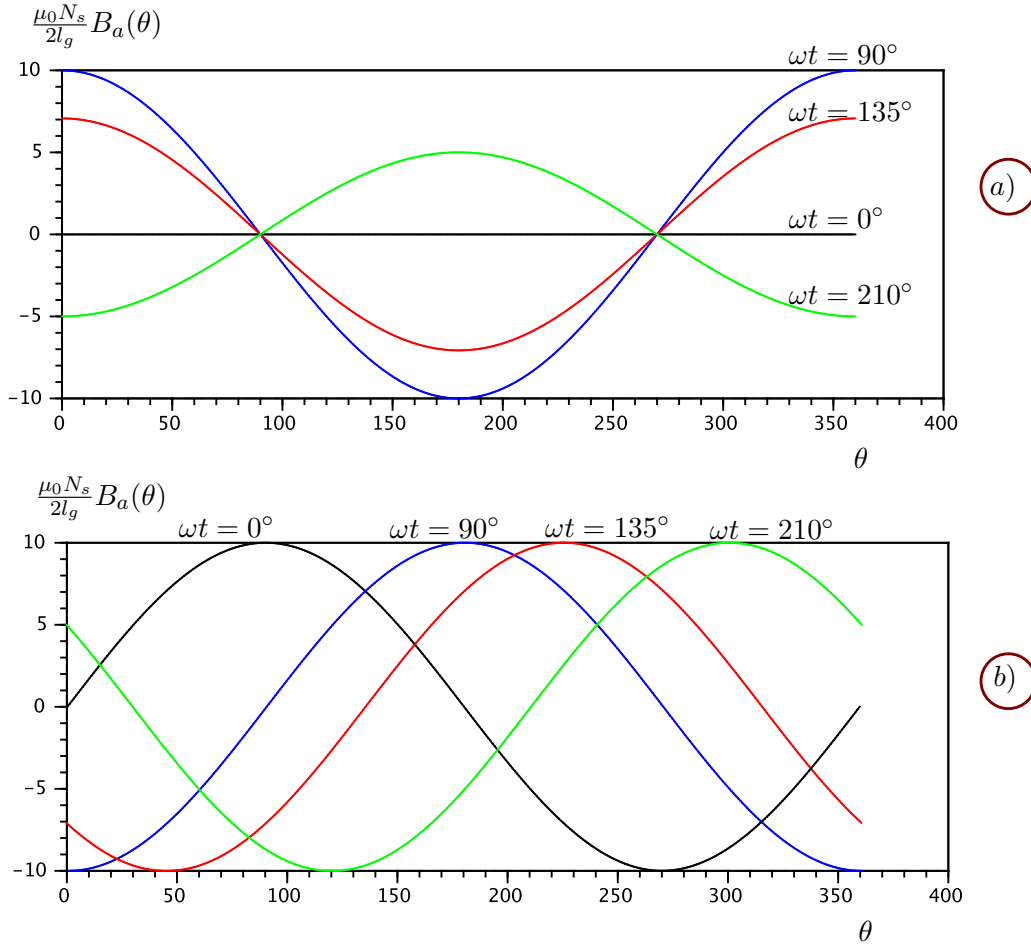

Figure 7: Field distributions at different instants.
- b) Which of the following two  $B_a(\theta)$  distributions shown in Fig.7 at these instants is correct?